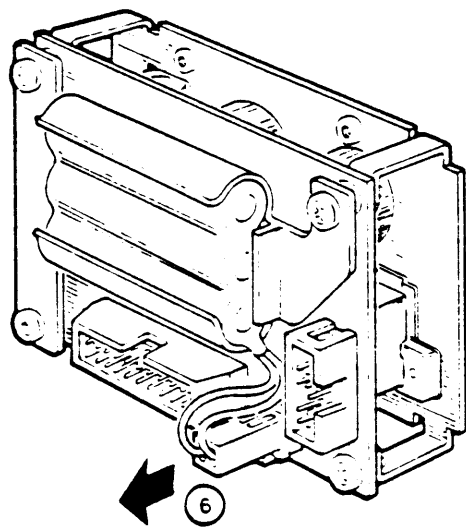

Figure 8-36 Disconnect the BBU
5. Disconnect the battery backup unit (BBU) from the CPU panel insert (Figure 8-36).